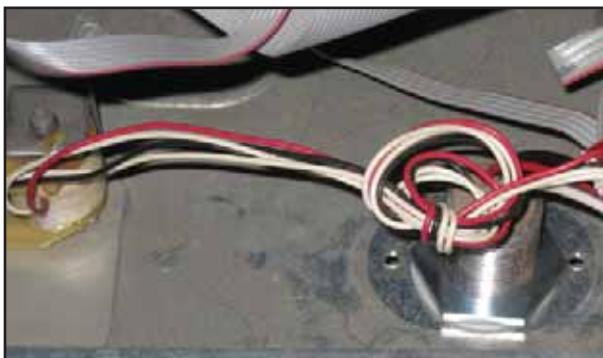

Figure 9: Potted Nipple Installed
15. Pull wires and then nipple assembly up into electronics enclosure. Fit washer and nut over wires and tighten nut securely in place, as shown in Figure 9.